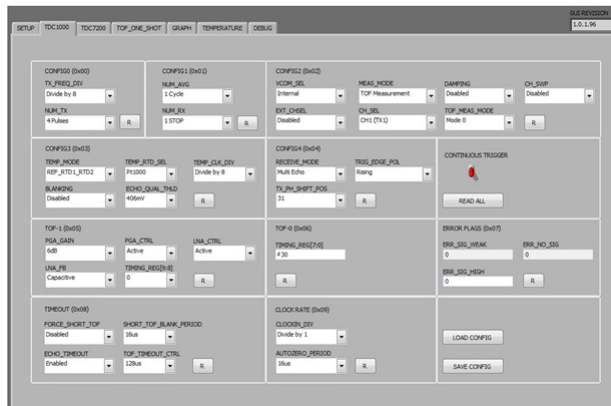

Figure 5-4. EVM GUI - TDC1000 Tab
- (a) In the GUI, click on the "TDC1000" tab, then click to enable "CONTINUOUS TRIGGER". Refer to Figure 5-4. The message "Start Continuous Trigger successful!!!" should appear at the bottom of the GUI.